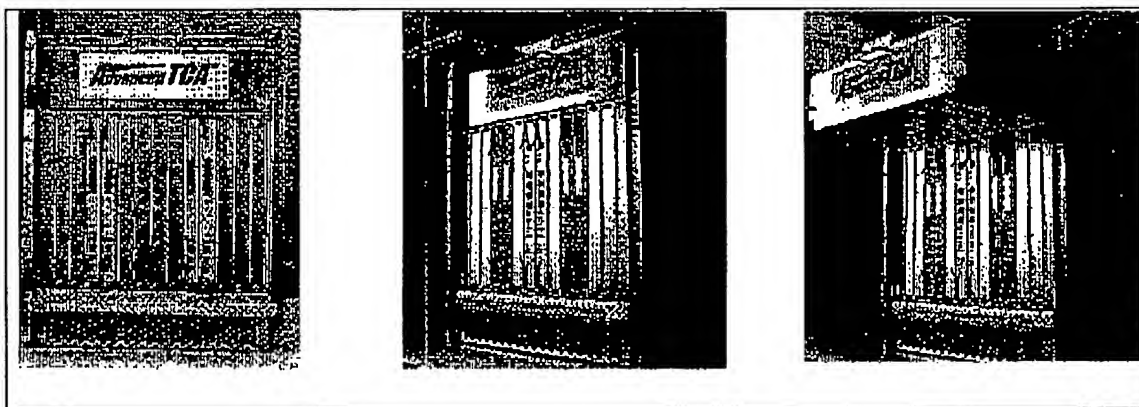
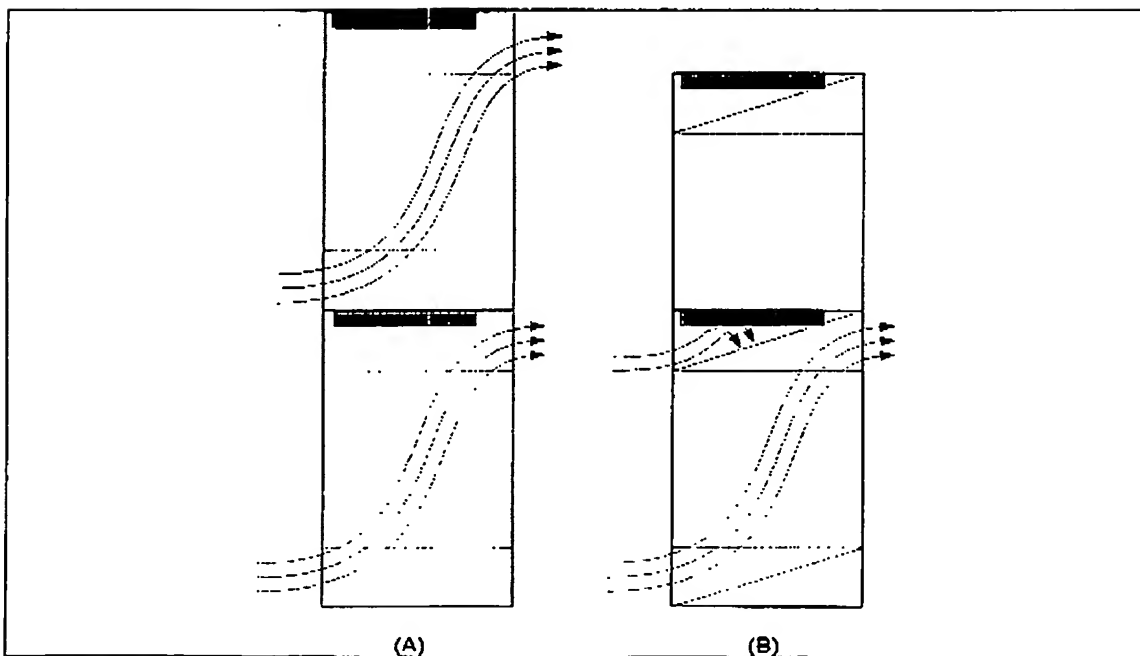

Figure 1. Current ATCA chassis with two CMMs
Figure 2. (A) Air flows through independent plenum for 14U system, (B). CMMs blocks air for shared plenum in 10U
The current method (see Figure 1) has CMMs mounted under the top of the chassis for 12U and 14U system. But a standard telecommunication server rack is 42U~45U and for high density chassis requirement, four chassis in a rack configuration or 10U chassis form factor is needed. In Intel's 10U shared plenum chassis, current CMM configuration is not applicable because of the mechanical/airflow interference.
Option2 for 10U chassis CMM configuration (fig2) solved the above problem, but it is not front serviceable.
The main configurations of the invention are described in Figures 1 and 2:
**Explanation.** All current ATCA and Flexi-Server chassis use single fan tray modules (shown in Figure 1) to cool the blade rack in the chassis (shown in Figure 2). These fan trays have an array of three fans, plus an array of three backup fans. The new dual fan tray module configuration for 10U ATCA produces a flexibility to design the CMM in the shelf management. Having dual fan tray modules offers these strong advantages over the current design:
**Closest art is described as fig.1 and the differences are as above.**